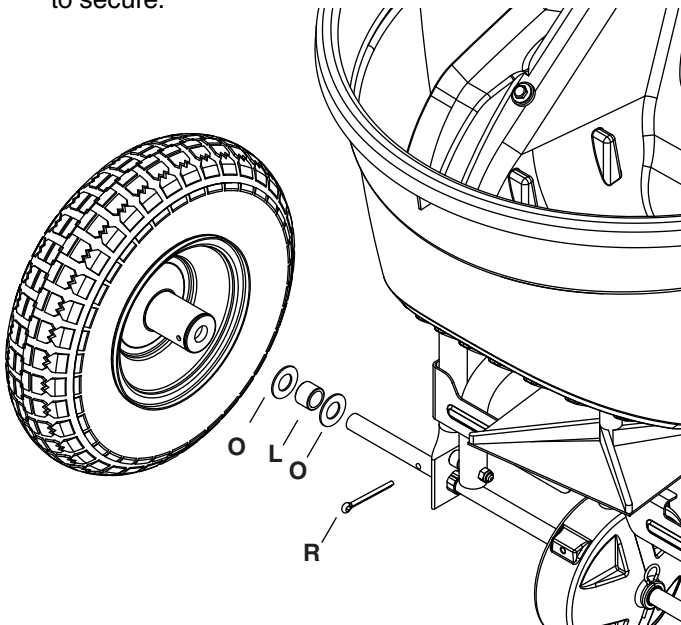

FIGURE 14
STEP 15: (SEE FIGURE 14)
- Slide a 5/8" washer (O), a spacer (L), a 5/8" washer, and a wheel onto the end of the axle.
- Slide a cotter pin (R) through the hole in the wheel and through the axle. Bend the ends of the cotter pin to secure.